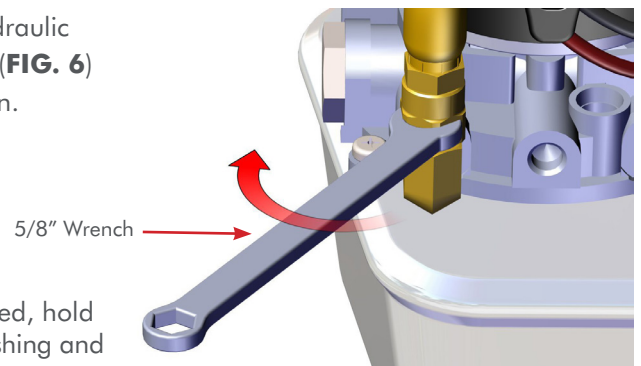

Figure 6
STEP 6 Finger tighten the (Up) labeled hose extension to the (HPU) hydraulic pump unit and then tighten a quarter turn using 5/8" wrench. (FIG. 6)